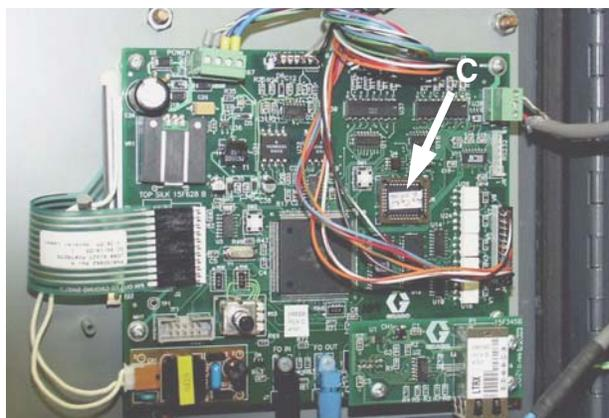

FIG. 30
3. Remove display board chip (C - FIG. 30) with removal tool.